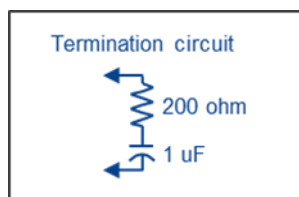

Figure 1-4 Termination circuit example
- The termination circuit of Figure 1-4 is an example using (*2). The capacitance (1uF) of the circuit is inserted for DC cut.